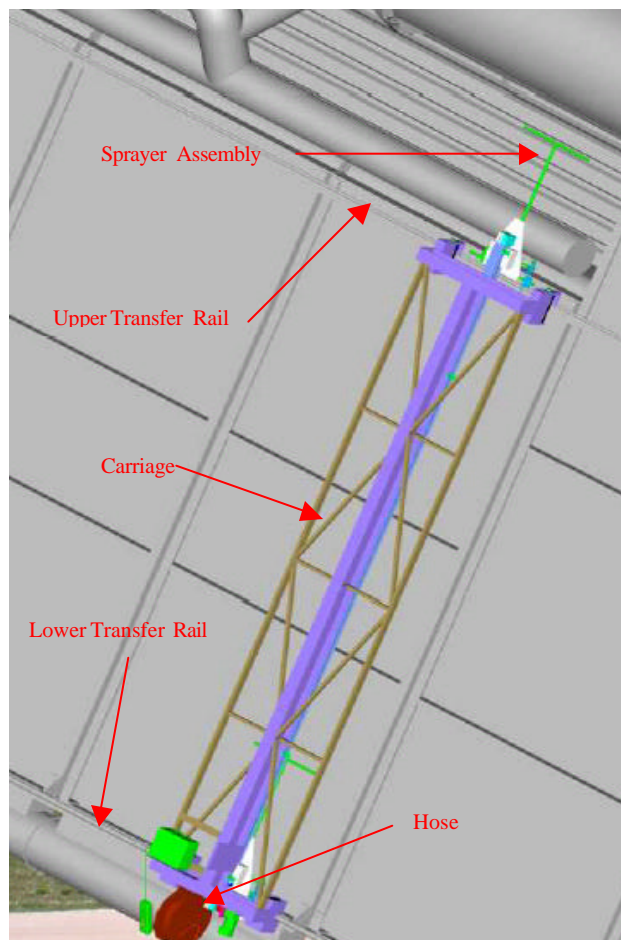

Figure 1 Basic Fin Tube Cleaning System
- Easily adaptable to air removal interference (as shown in figure 1) on older ACCs
- The system is extremely lightweight and is easily maneuvered along the condenser row on a library ladder style carriage (Figures 1 and 2). Every effort has been made to place the majority of the carriage weight at the bottom of the carriage resulting in an easily pushed carriage along the lower transfer rail.
- Flawless integration into existing ACC units, even with protruding air removal lines, as shown in figure 1.